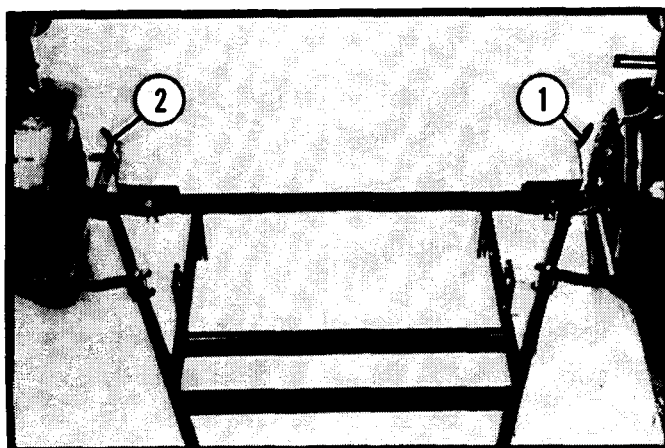

Figure 20
4. Mount the wheel stops onto the frame positioned at their farthest allowable width. Do not tighten (See Figure 20).